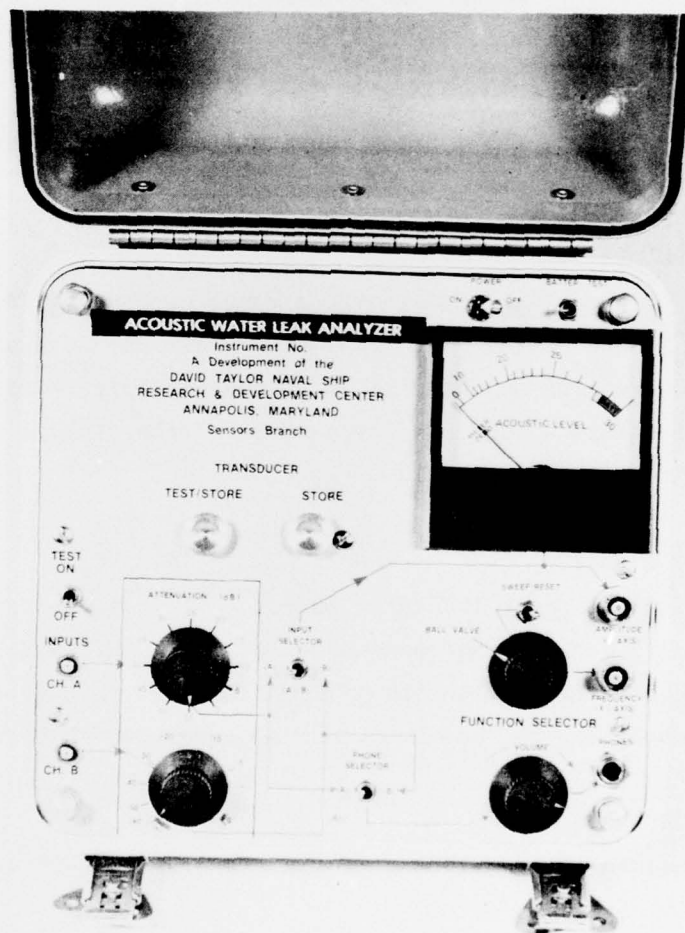

Figure 2 - Acoustic Water Leak Analyzer Front Panel Controls
5.0 FRONT PANEL CONTROLS AND FUNCTIONS (See Figure 2)